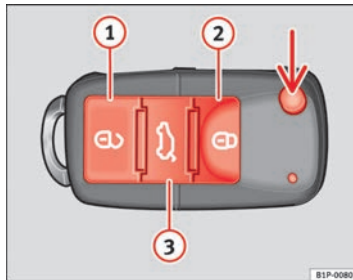

Fig. 45 Assignment of buttons on the remote control key
Using the button  \Rightarrow Fig. 45 (arrow) on the control, the key blade is released.
Unlocking the vehicle  \Rightarrow Fig. 45 **1**.
Locking the vehicle  \Rightarrow Fig. 45 **2**.
Unlocking the rear lid. Press button  \Rightarrow Fig. 45 **3** until all the turn signals on the vehicle flash briefly. When the unlocking button  **3** is pressed, you have 2 minutes to open the door. Once this time has passed, it will lock again.
- Press the  button **2** ⇒ Fig. 45 on the remote control.
- Press the  button **1** ⇒ Fig. 45 on the remote control.